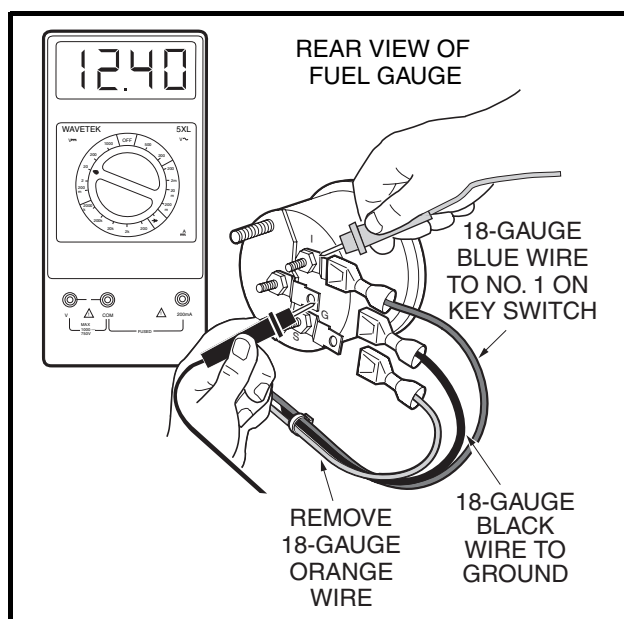

Figure 11-36 Fuel Gauge Test
5. Set a multimeter to 20 volts DC and place the red (+) probe of the multimeter on the (G) terminal of the fuel gauge with the blue wire. Place the black (–) probe on the (S) terminal of the fuel gauge with the black wire (**Figure 11-36, Page 11-35**).
7. Turn the key switch ON. The voltage reading should be the same as the battery voltage reading recorded earlier. If not, check the continuity of the blue and black wires (**Figure 11-36, Page 11-35**).